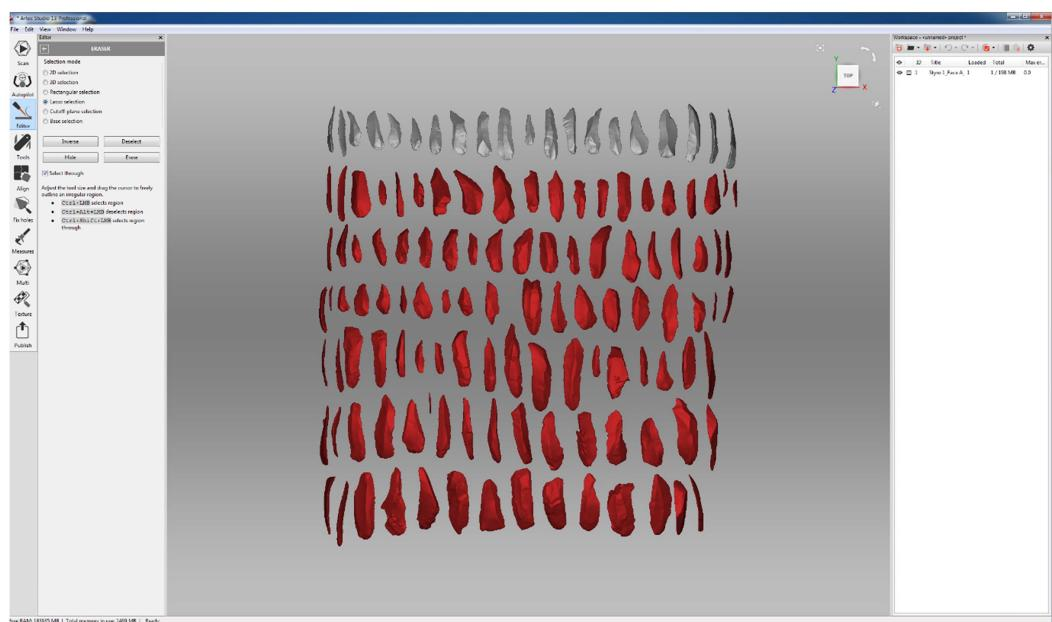

Fig. 28: Selected lines that will be deleted to separate the first line.
34.5 Press and hold Ctrl while outlining all rows except the one that you want to separate. Selected areas will be marked in red (Fig. 28).